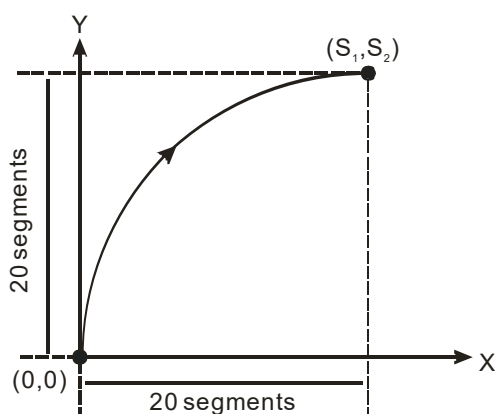

Figure 1
- The low word of **S** (settings of direction and resolution): K0 refers to clockwise 20-segment output; K1 refers to counterclockwise 20-segment output; A 90° arc can be drawn (see figure 1 and 2).